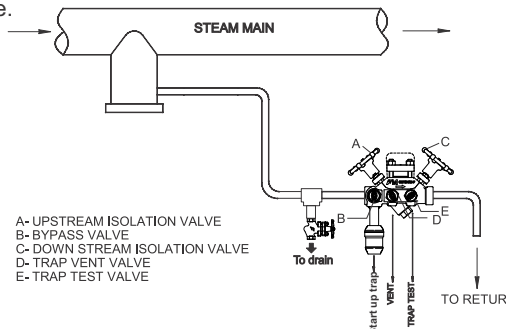

Figure5. Typical installation of CMTD42M-FST and CMTD42M-SST
3. The preferred installation is in a horizontal pipe with the top cover uppermost as shown in figure 5. The steam trap will operate in any position, but the service life may be affected.
6.1. Flushing of lines: [Refer figure 5]
6.2. Commissioning: [Refer figure 5]
6.3. Commissioning with particular reference to vent air: [Refer figure 5]